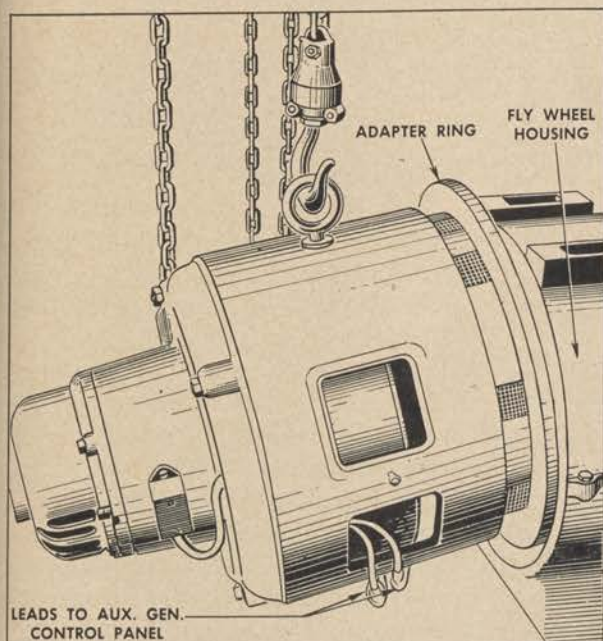

Figure 286. Removing auxiliary generator from Diesel.
a. REMOVING AUXILIARY GENERATOR FROM DIESEL. (1) Disconnect the leads from the generator to the auxiliary generator control panel. (See fig. 286.)
(2) Remove the rear bearing cover plate from the exciter housing.
(3) Lift the brush holders so that the brushes clear the commutator.
(4) Provide means for sliding the generator
away from the engine by blocking underneath. If available, a block and tackle, or chain hoist, hooked to the generator lifting screw as shown in figure 286, will be extremely convenient.